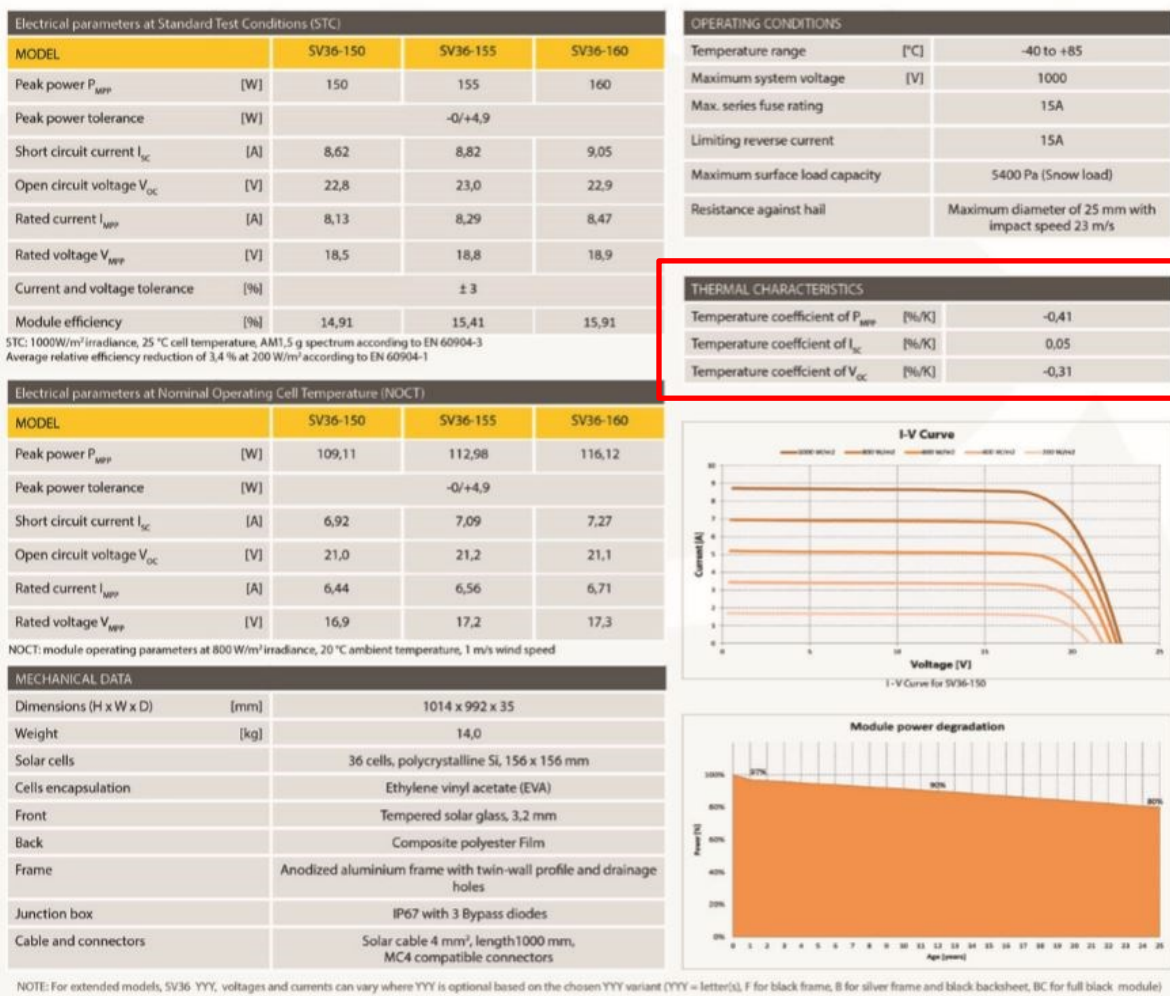

Figure 5: Datasheet from a 36-cell multicrystalline PV module manufactured in 2016.
3. How do your temperature coefficients for  $I_{SC}$ ,  $V_{OC}$  and  $P_{MP}$  compare to the datasheet values of a typical c-Si module? Refer to the thermal characteristics in the datasheet below (Figure 5). Why do you believe there are differences, if any?